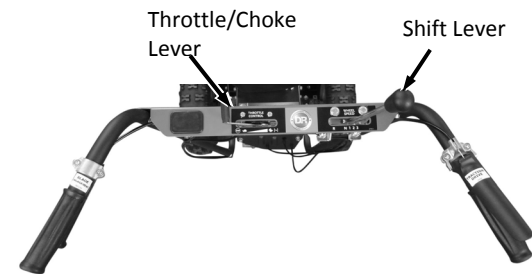

Figure 13
1. Move the Shift Lever to the Neutral **N** position (Figure 13).
4. As the engine warms up, slowly adjust the Throttle to the Fast  position (Figure 13).
1. Move the Shift Lever to the desired gear (Figure 13).